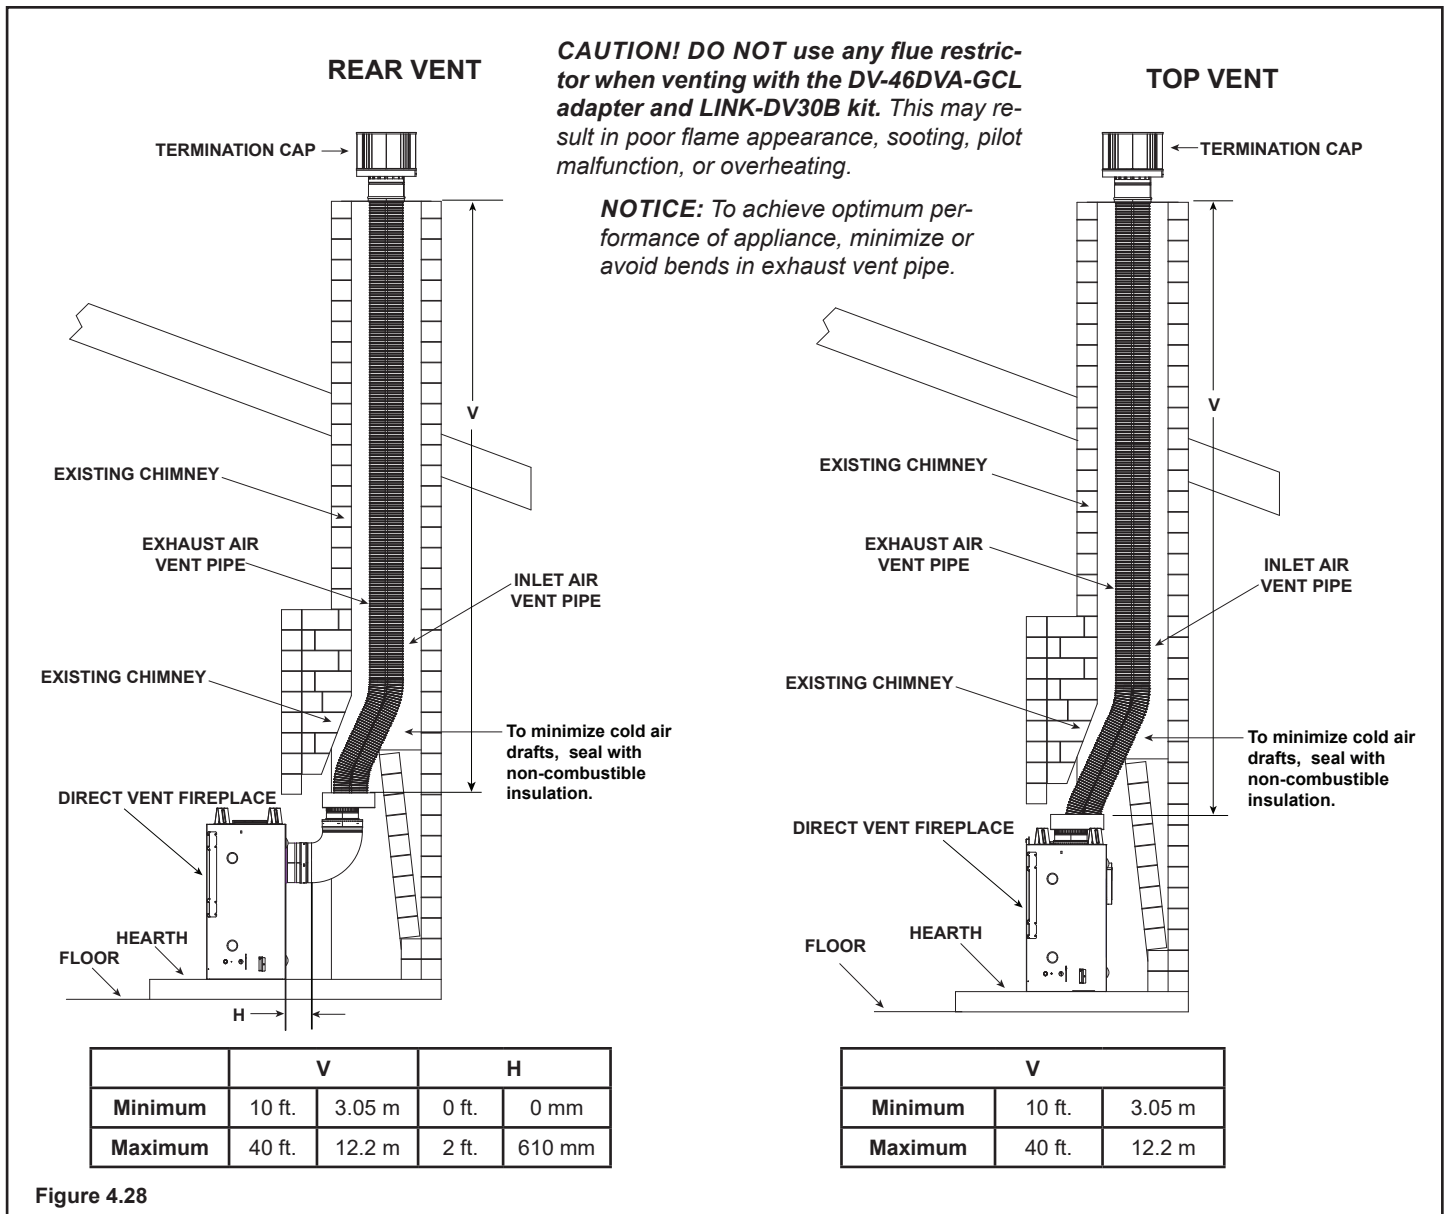

Figure 4.28
SLP Collar: Install the DV-46DVA-GCL adapter to the appliance starting collar with 3-1/2 in. self-tapping screws. See Figure 4.28.
- Remove the rear seal cap and insulation if equipped. Connect the DVP-2SL adapter to the vertically positioned elbow. Follow installation instructions included with DVP-2SL kit. Secure DV-46DVA-GCL adapter to DVP-2SL with 3-1/2 in. self-tapping screws. See Figure 4.28.